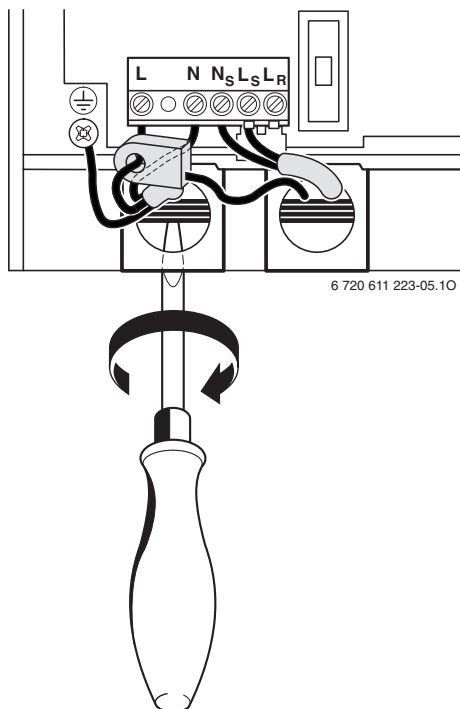

Fig. 27
- Feed cable through cable grommet and connect the mains supply cable, see fig. 27.